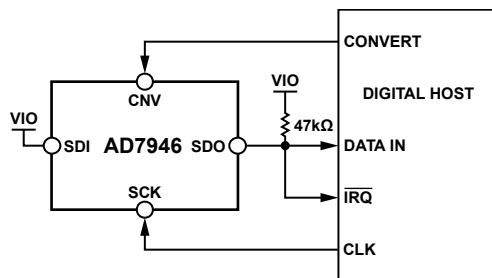
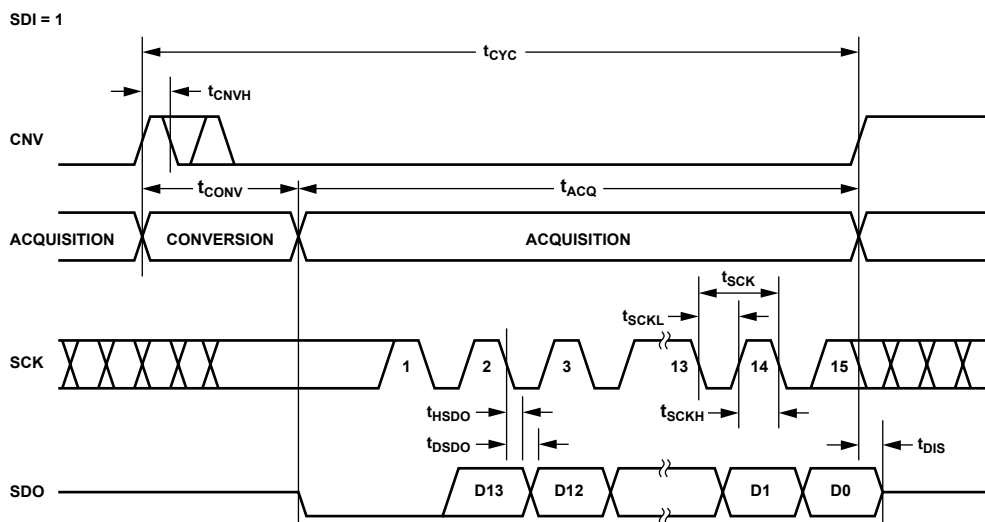
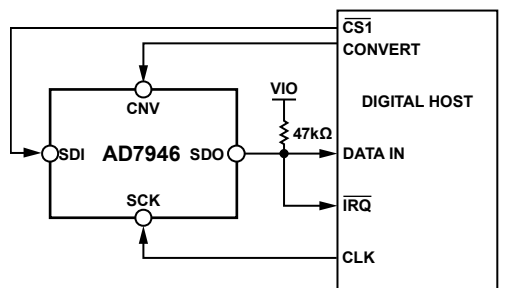
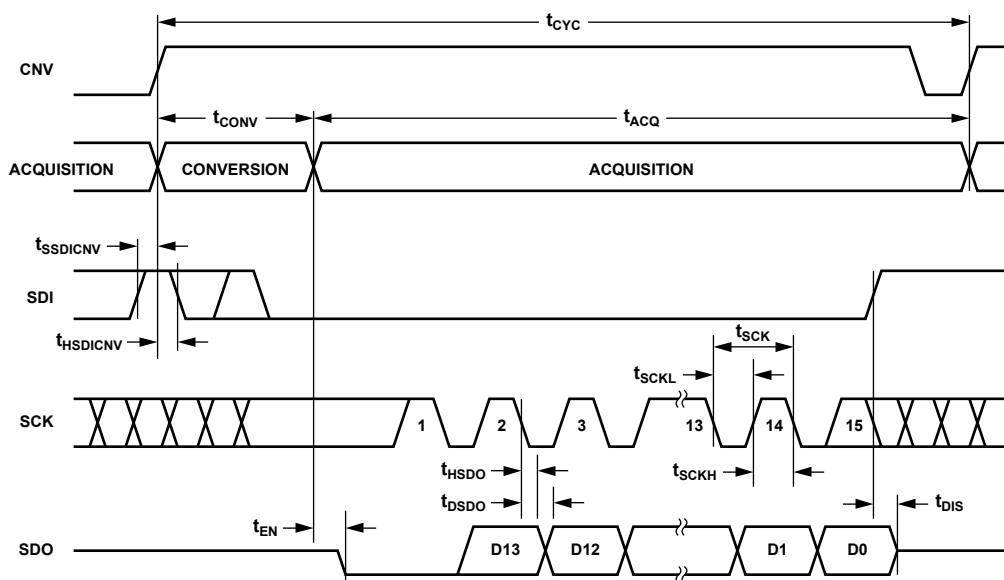

Figure 35. $\overline{\text{CS}}$ Mode 3-Wire with BUSY Indicator Connection Diagram (SDI High)
Figure 36. $\overline{\text{CS}}$ Mode 3-Wire with BUSY Indicator Serial Interface Timing (SDI High)
Figure 39. $\overline{CS}$ Mode 4-Wire with BUSY Indicator Connection Diagram
Figure 40. $\overline{CS}$ Mode 4-Wire with BUSY Indicator Serial Interface Timing
- In $\overline{\text{CS}}$ mode, if CNV or SDI is low when the ADC conversion ends (see Figure 36 and Figure 40).
The connection diagram is shown in Figure 35, and the corresponding timing is given in Figure 36.
The connection diagram is shown in Figure 39, and the corresponding timing is given in Figure 40.